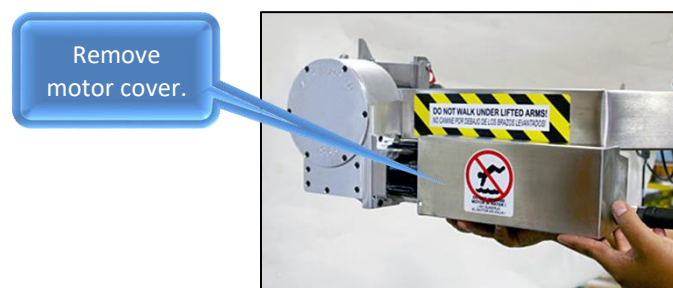

Figure 88
2. Remove the motor cover (Figure 88).